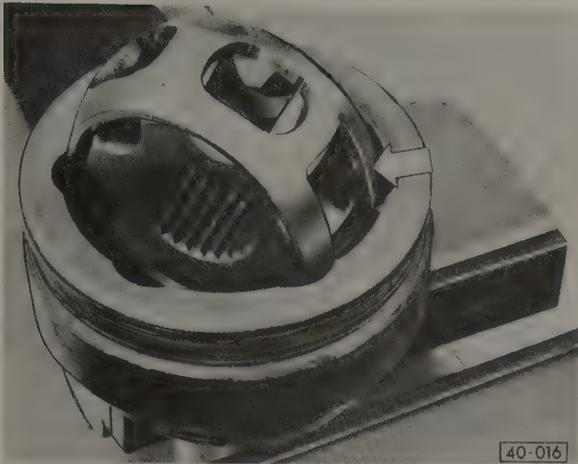

Fig. 5-13. Large rectangular openings in cage (arrow) in position for cage and hub removal.
- Remove the hub and cage as a unit, turning them so that the two large rectangular openings in the cage are positioned as shown in Fig. 5-13, and remove the hub and cage.